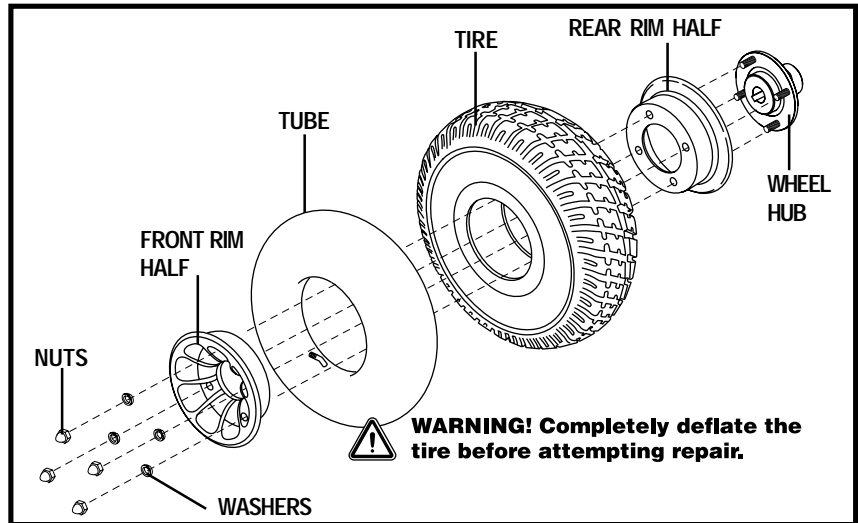

Figure 26. Quantum 610 Drive Wheel Disassembled
6. Remove the nuts and washers from the wheel hub and separate the rim halves. See figure 26.